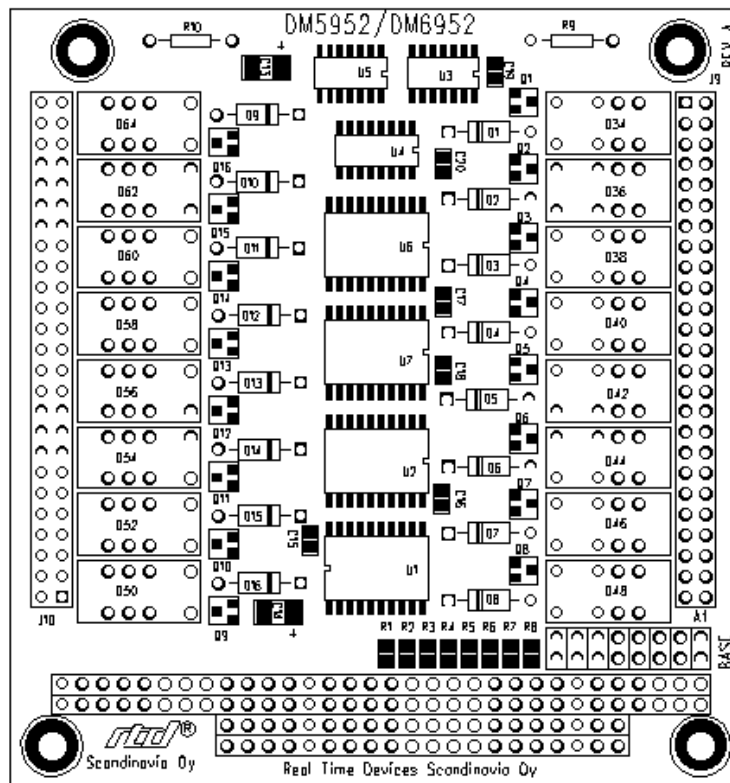

Figure 2-1 - Board layout showing jumper locations (Figure shows DM6952 board)
- Fig. 2-1 : Board layout showing jumper locations
Table 2-1: Factory jumper settings (see figure 2-1 below for detailed locations)